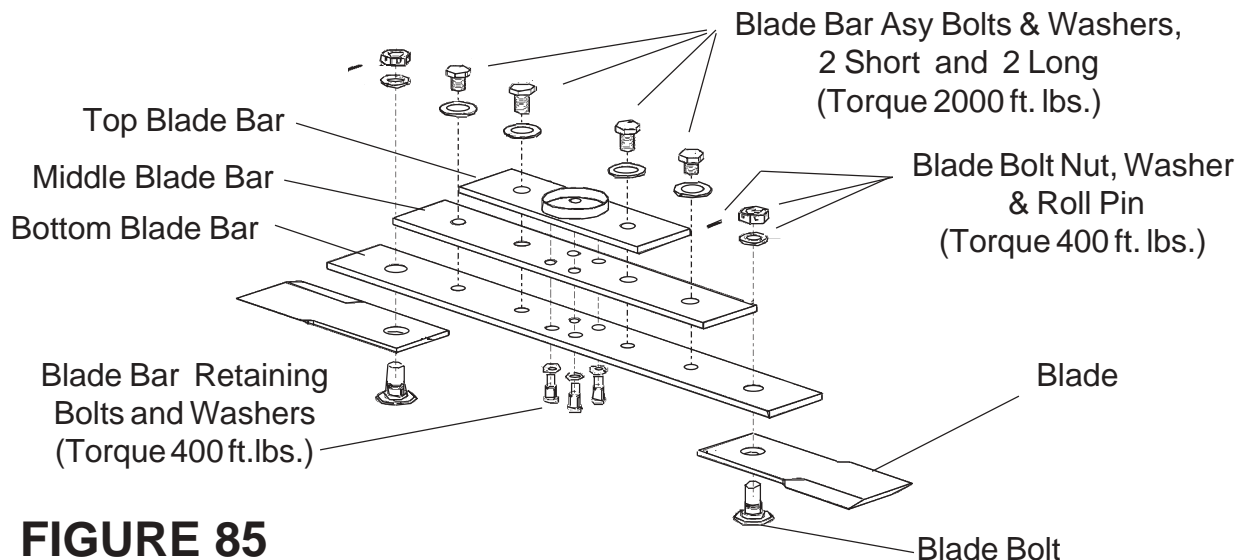

FIGURE 85
8. Remove Blade Bar Assembly. Use Caution the Blade Bar is very heavy Do Not remove the retaining bolts till it is secure to where it will not fall. An easy way to support Blade Bar when removing it is to only remove 2 of the 4 retaining bolts. Get 2 long bolts with same size and threads but longer than what was removed, cut the heads off of these 2 longer bolts and screw them in where you removed the 2 retaining bolts. This will support Blade carrier while you remove the other 2 bolts, this allows the Blade carrier to slide off. The four Blade Bar Retaining Bolts are Torqued to 400 ft. lbs. and are tight. It may be required to hold Blade Bar when removing them, This can be done by connecting a Chain to Blade Bar and securing it to Deck. Make Note of the length of the four Blade Bar Retaining Bolts in center Blade Bar (See Figure 85), Never put Bolts back in that are longer or Shorter they will damage Spindle Shaft.
5. Install Blade Bar Carrier. As Bar Blade Carrier was only removed and not dis-assembled it should only be a matter of bolting the Assembly on and Torqueing it down? If Bar Blade Carrier was Dis-Assembled it will have to be assembled and components Torqued as specified, See Figure 85 on previous Pages. Blade Bar leaf Assembly Bolts MUST be torqued to 2000 ft. lbs., There are four of these Bolts, 2 long and 2 short, They MUST be torqued BEFORE Blade Bar is bolted to Spindle. The Blade Bolts must be torqued to 400 ft. lbs. and Roll Pin Installed. The Blade Bar Retaining Bolts (Socket Head Bolts that attaches blade bar to spindle) and lock washer must be installed, These will torque to 400 ft. lbs.